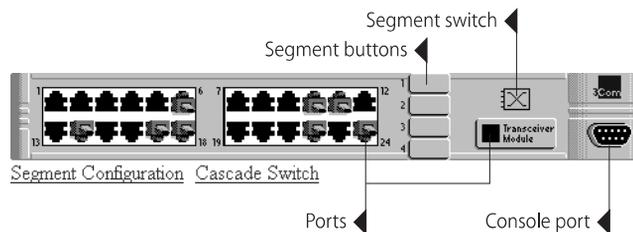

Figure 7-6 Areas of the Unit View
- 2 To display another page, click on part of the Unit View or the links underneath it, as shown in Figure 7-6.